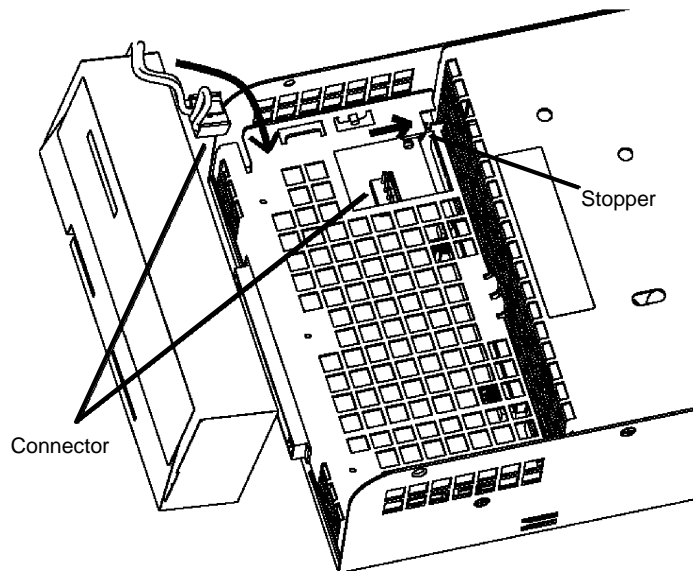

Figure 3-23. Installing the Battery Backup Unit into the Replacement Power Supply
9. Connect the battery backup unit cable to the replacement power supply. Place the battery backup unit into the supply so that the battery label faces upwards. See Figure 3-23.